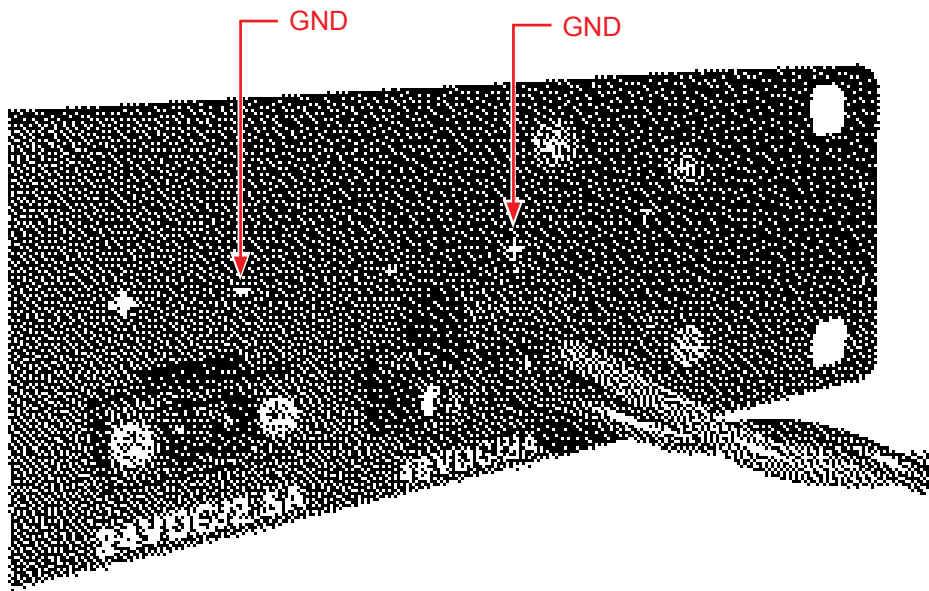

Figure 2-4. –48 V Power Installation.
3. Attach the power and return the wires to the connector as shown in Figure 2-4.